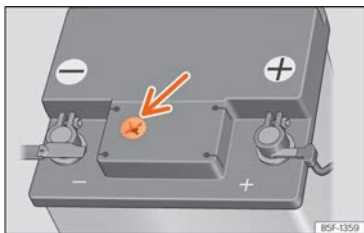

Fig. 252 Sight glass on the top of the 12 volt battery (schematic representation).
- Check the colour display in the sight glass on the top of the battery »» **Fig. 252**. Ensure sufficient lighting to clearly identify the colour shown in the battery window. Never use flames or objects that burn without a flame as a light source.